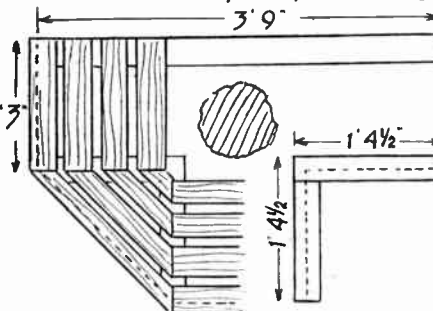

Fig. 2—Plan view of the seat and legs
shown at (D) can be substituted for the rustic wood, if preferred. These legs are cut from $2\frac{1}{2}$ ins. square timber, provided with the needful bottom tenons, of course, and with the corner angles stop chamfered for effect. Before proceeding with fixing the seat slats, the ground may need levelling round the tree. Place the parts made in position, as in the plan view, Fig. 2, and test with a spirit level. See these parts bed down satisfactorily, and all approximately level with each other. This being made right, cut the straight slats, not the angular corner ones, to the length given.